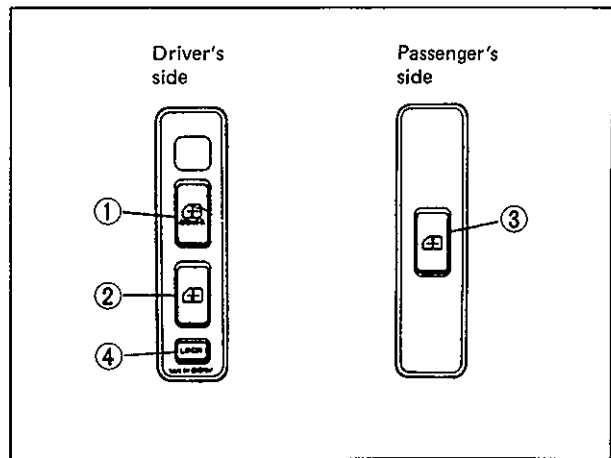
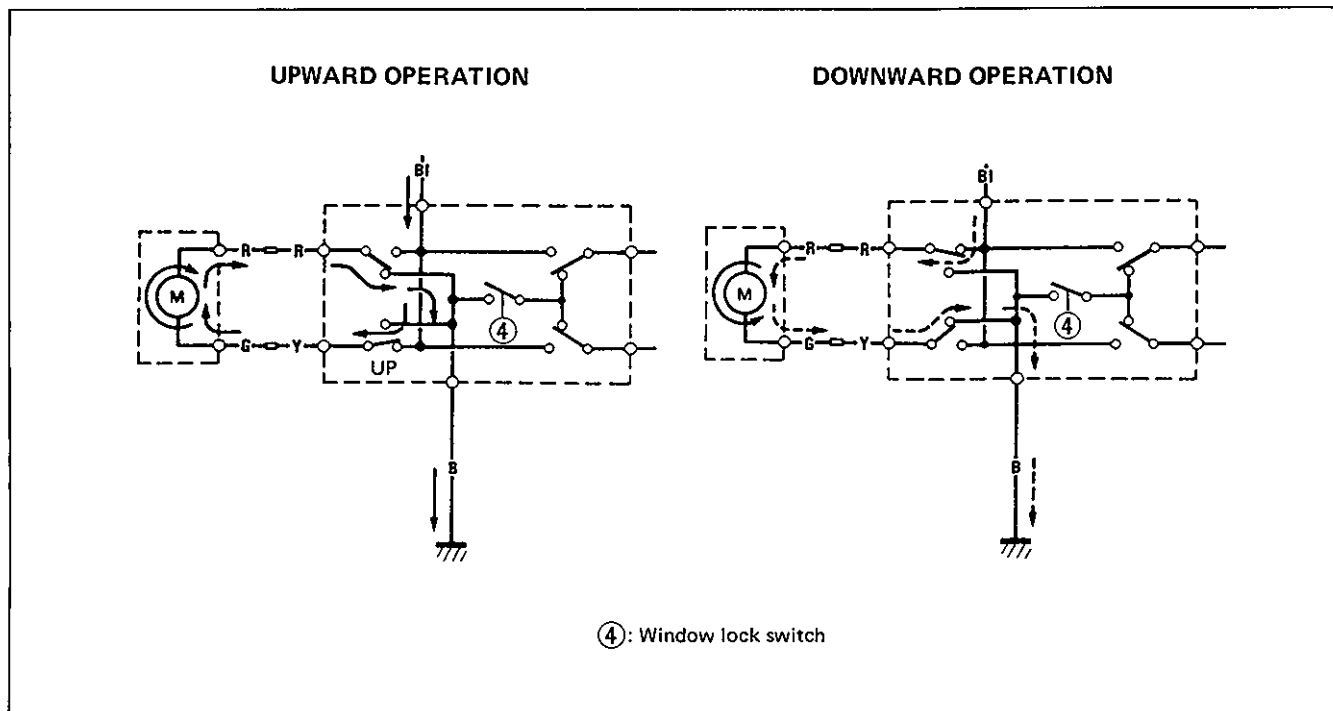

Fig. 8-70 Switch
Fig. 8-72 Rotation Direction of Motor and Circuit
As the power window switch is operated in one way or the other, an electric current flows to the window regulator motor to run it. Whether the motor turns clockwise or counterclockwise is determined by the direction in which the electric current flows. Thus, the window moves up or down depending on the rotation direction of the motor. The solid arrow line (—→) in Fig. 8-72 shows the electric current flow when the driver's side switch (① in Fig. 8-70) of the power window main switch is operated for upward movement and the broken arrow line (---→) for downward movement.